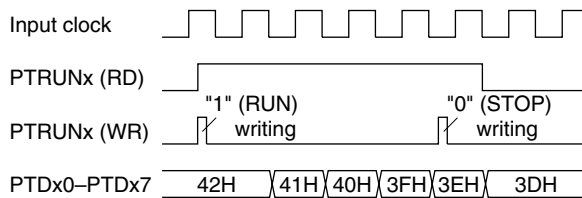

Fig. 5.2.2 Timing chart for RUN/STOP control
- (1) When reading counter data, be sure to read the low-order 4 bits (PTDx0–PTDx3) first. Furthermore, the high-order 4 bits (PTDx4–PTDx7) should be read within 0.73 msec (when f_{OSC1} is 32.768 kHz) of reading the low-order 4 bits (PTDx0–PTDx3).
- (2) The programmable timer actually enters RUN/STOP status in synchronization with the falling edge of the input clock after writing to the PTRUNx register. Consequently, when "0" is written to the PTRUNx register, the timer enters STOP status at the point where the counter is decremented (-1). The PTRUNx register maintains "1" for reading until the timer actually stops. Figure 5.2.2 shows the timing chart for the RUN/STOP control.